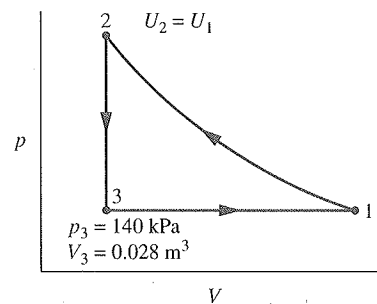

Fig. P2.80
2.80 As shown in Fig. P2.80, a gas within a piston-cylinder assembly undergoes a thermodynamic cycle consisting of three processes in series: